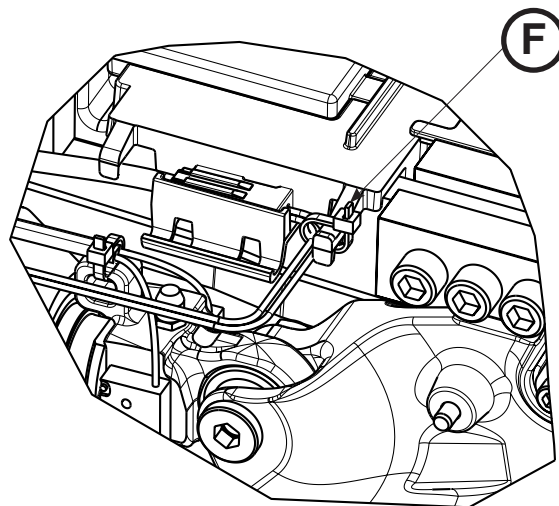

Figure 72
9. Using diagonal pliers, cut the cable ties (F) that secure the hydraulic cylinder rod end assembly cable to the plastic cover (Figure 72).